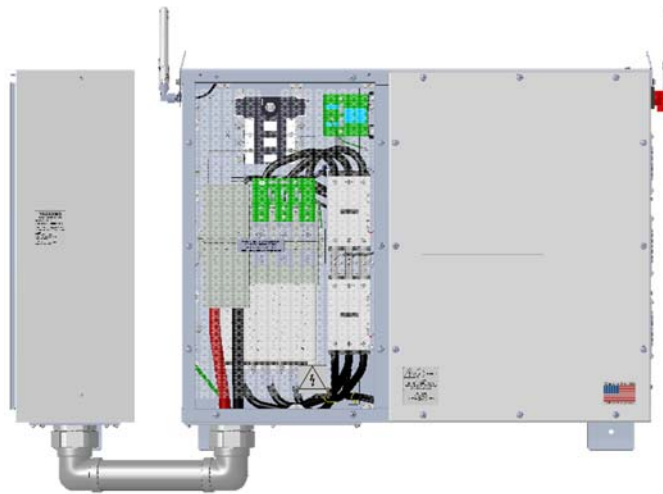

Figure 3.10 – PV Output Circuit Wiring Harness Assembly Installation
5. Replace the plastic shield in the XGI 1500 wiring compartment. Completed wiring should appear as in Figure 3.10.